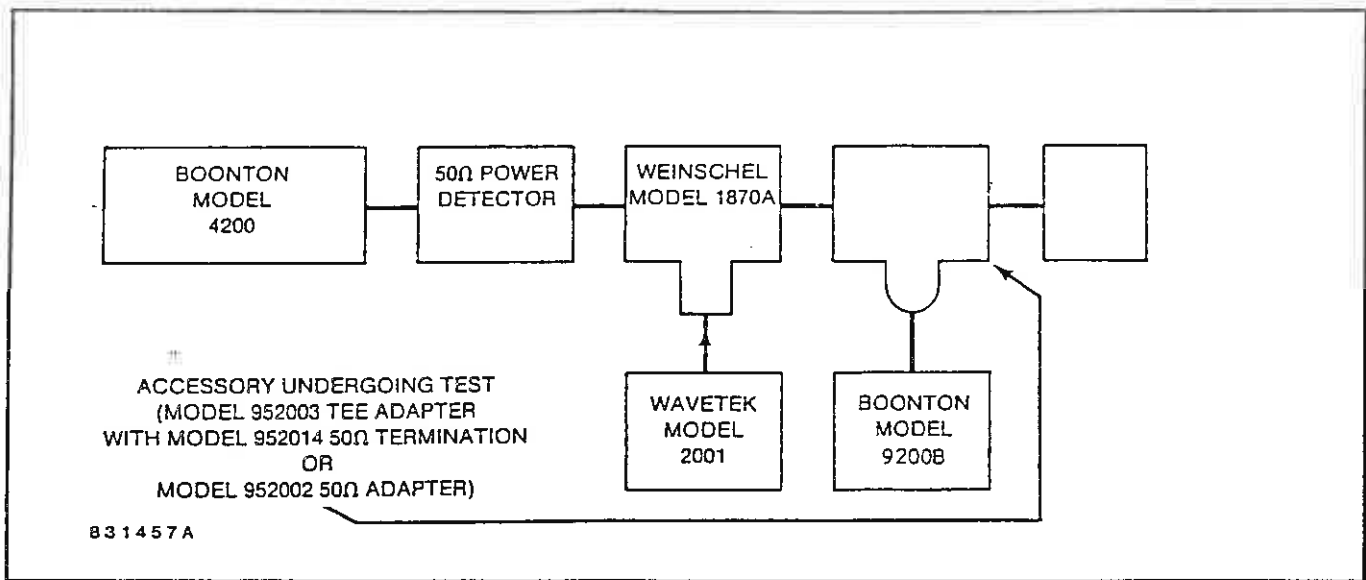

Figure 5-4. RF Probe Frequency Response Test Setup.
1. Test equipment required: Refer to Figure 5-4.
- d. Connect Equipment as shown in Figure 5-4.